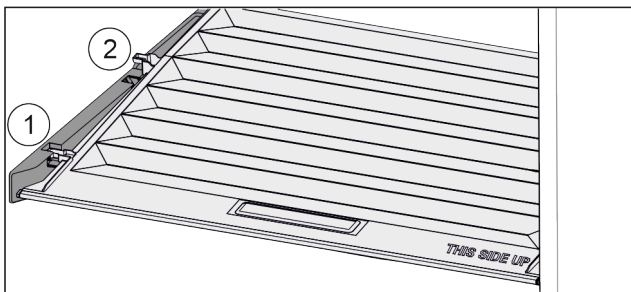

Fig. 54
- ▶ Pull the lid up at the front to the opening in the retaining parts Fig. 54 (1).
- ▶ Lift from the back and pull it up and out Fig. 54 (2).